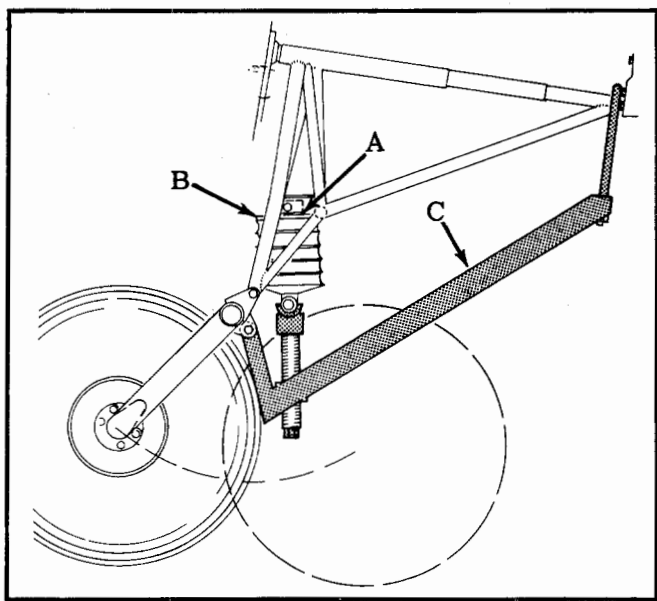

Figure 5-15. Main Gear Shock Disc Replacement Tool Application.
(1) Check gap between retaining collar (A) Figure 5-15 and top retaining plate (B). Allowable gap is 0.00 to 0.43 inches for M20C and G, 0.00 to 0.60 inches for M20 E, F, and J.
(2) Replace discs when gap exceeds the tolerance. Use a shock disc replacement tool (C), P/N GSE 030011, (old P/N ME 121), to remove and install main gear shock discs.